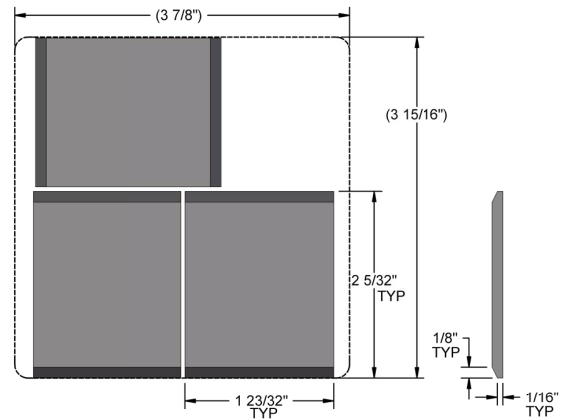

Figure 4.2
2. The new anvil pad material must be trimmed to fit within the area of the anvil face. Three pads can be trimmed from one square of pad material. Trim the pad as shown in Figure 4.2. Chamfer the two cut edges of each anvil pad as indicated.